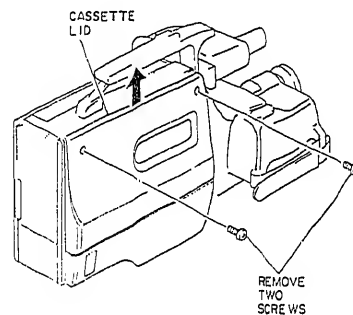

Fig. 2-5
1. Remove two (2) screws holding the cassette lid. (See Fig. 2-5)